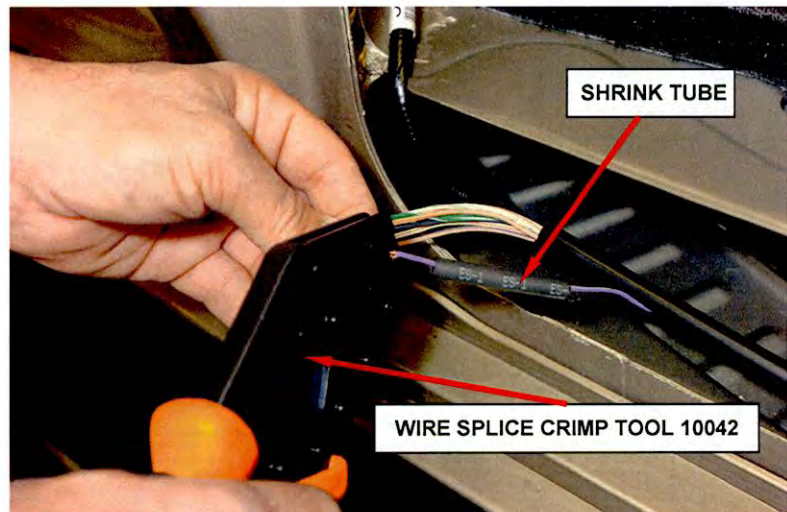

Figure 16 – Crimping Wires Together
13. Install a piece of shrink tube over one of the cut wires (Figure 16).
14. Insert both cut wires into the splice band and crimp them together using wire splice crimp tool 10042 (Figure 16).